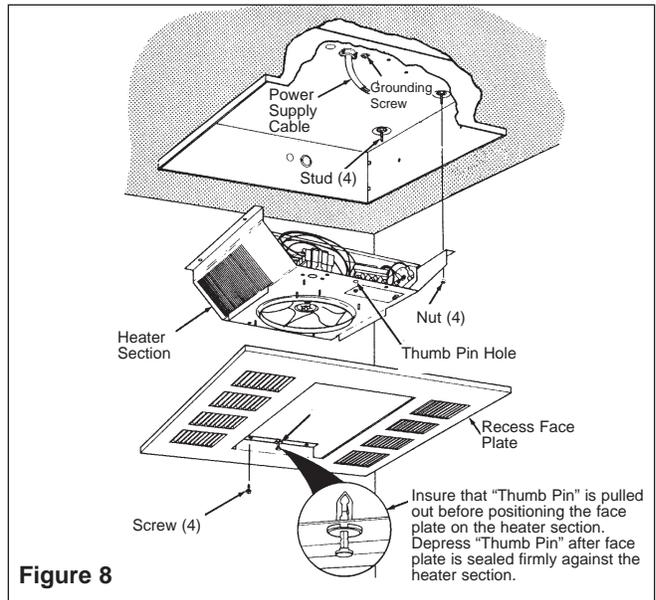

Figure 8
12. Position the heater section over the studs in the recess mounting box (Figure 8).
13. Push the heater section onto the studs and securely tighten four nuts (supplied) on the studs to secure the heater section to the recess mounting box (Figure 8).
15. Remove the recess face plate (Figure 8) from the carton containing the Recess Mounting Enclosure, Type REA.
18. Install and securely tighten four screws (supplied) to secure the recess face plate to the heater section (Figure 8).